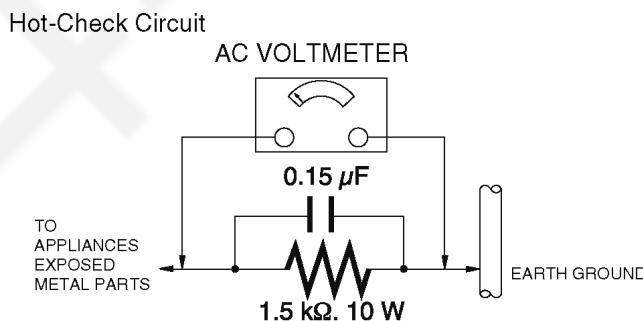

Figure. 1
| 1.3. Leakage Current Hot Check (See Figure 1.) | 3 |
1.3. Leakage Current Hot Check (See Figure. 1)
2. Connect a $1.5\text{ k}\Omega$, 10 W resistor, in parallel with a $0.15\text{ }\mu\text{F}$ capacitor, between each exposed metallic part on the set and a good earth ground, as shown in Figure. 1.